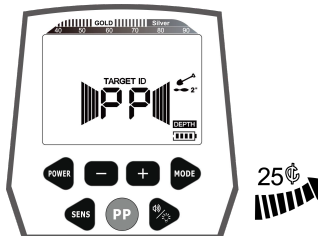

Fig.15
- b. Take a 25 ¢ silver coin and let it approach the search coil slowly. At the position of about 7" to 8", the first set of signal strength cursors begins to appear, the sound becomes louder and the tone becomes higher. Continue to move the 25 ¢ silver coin, the signal strength cursor is fast full, the sound is louder, and then the depth cursor indicates the depth down until only one is left, indicating that the metal is gradually approaching the center of the search coil. (See Fig.15)